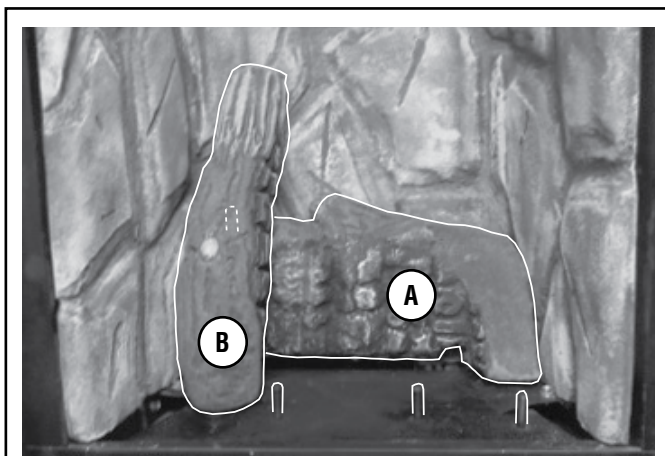

Figure 45 - Install Left Middle Log (B)
2. **Place the left middle log (B) as shown in Figure 45.** Position the hole on the bottom of log B over the corresponding locating pin on Log A.